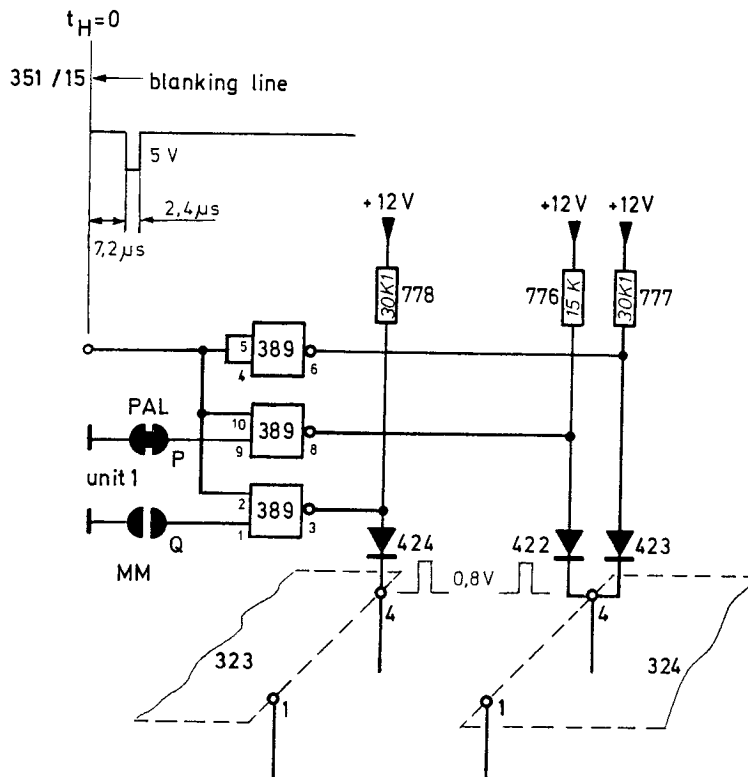

Fig. 14 Generation of the colour sync signal
2.2.7.2. Colour sync signal (burst), fig. 14